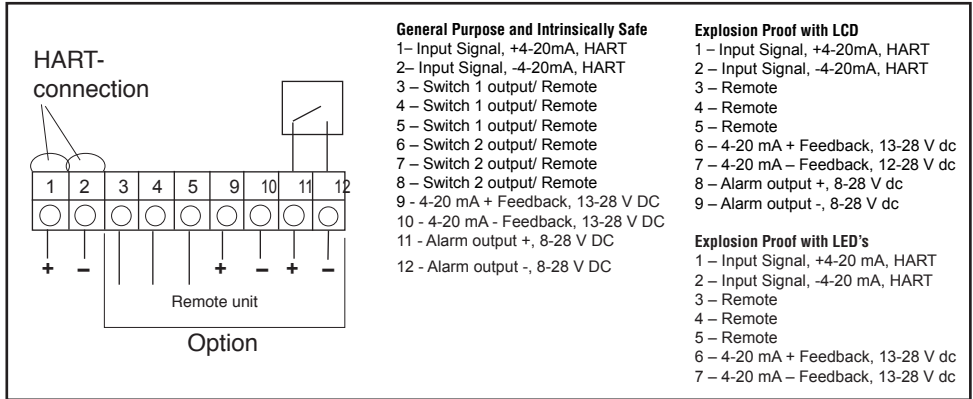

Figure 7. Connections
5. Connect the outlet connector (Figure 7) of the positioner with tubing, independent of the action (direct or reverse).
NOTE: *The input loop current signal to the **PMV D20** should be in shielded cable. Shields must be tied to a ground at only one end of the cable to provide a place for environmental electrical noise to be removed from the cable. In general, shield wire should be connected at the source. (Figure 7).*